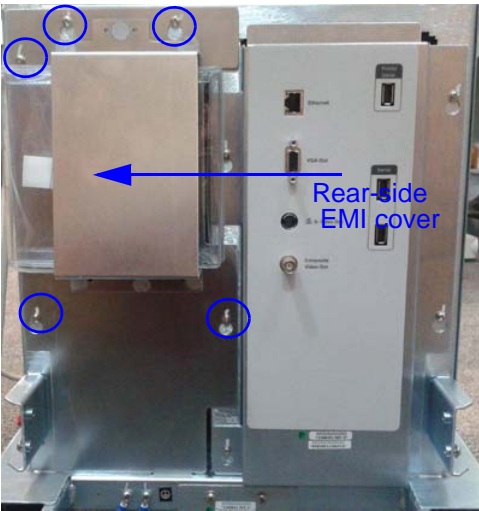

Figure 8-36 **Rear-side EMI cover**
- 4) Remove Rear-side EMI cover. Refer Figure 8-36 on page 8-36 for details on how to remove Rear cover.